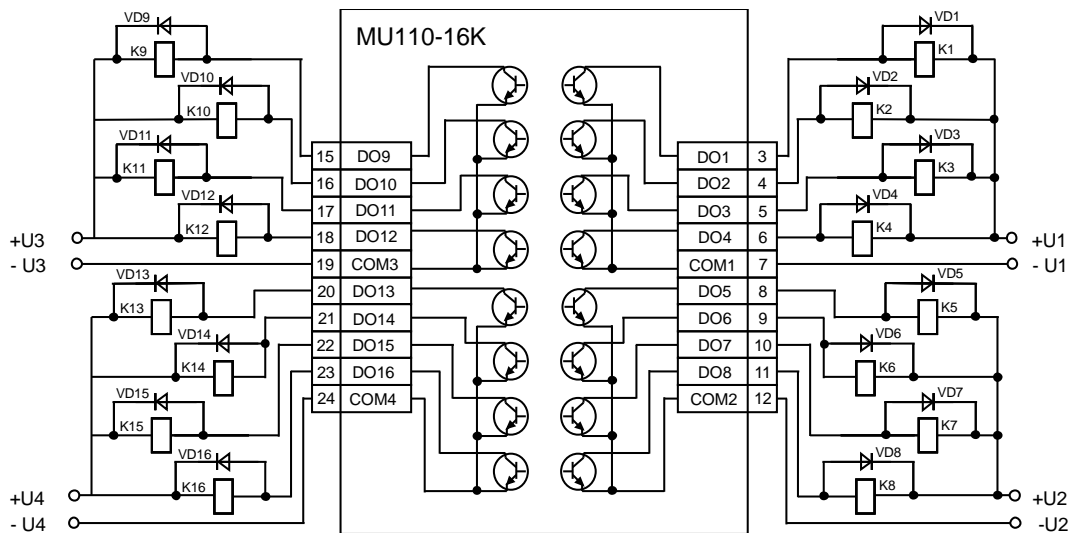

Fig. 4.3 MU110-16K outputs
- If there is inductive load on an NPN output, it is recommended to connect VD diode (100 V, 1 A) to protect the transistor (see Fig. 4.3).
If there is inductive load on an NPN output, it is recommended to connect VD diode (100 V, 1 A) to protect the transistor (see Fig. 4.3).